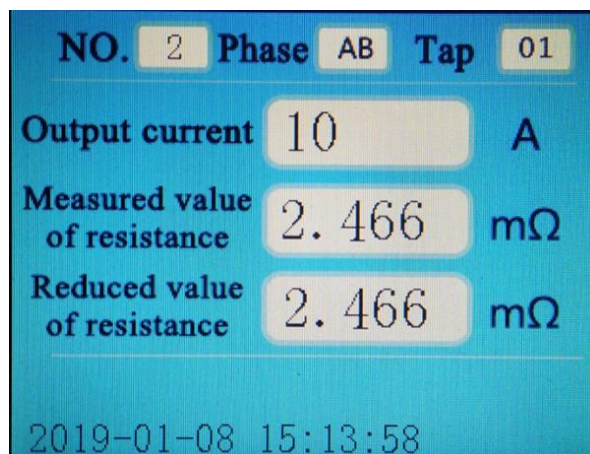

Figure 4
3) Move the cursor to the "data query" menu in the startup interface, and then press the "select" key to enter the data query, as shown in figure 4:
In figure 4, when the cursor is in "Data query", press "select" to scroll up data and "Start" to scroll down data.